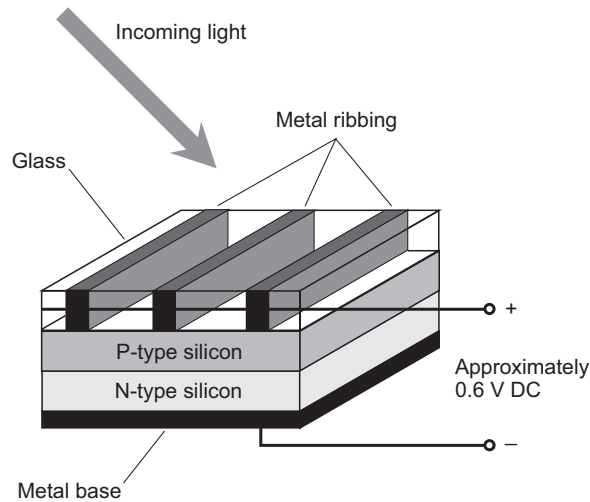

FIGURE 9-4 Construction of a silicon photovoltaic (PV) cell.
A *photovoltaic* (PV) *cell* converts visible light, infrared (IR) rays, and/or ultraviolet (UV) rays directly into DC electricity. Figure 9-4 shows the basic construction of a silicon PV cell. The P-N junction forms the active region. The cell has a transparent housing so that radiant energy can strike the P-type silicon. Interconnected metal ribs form the positive electrode. The negative electrode is a metal backing in contact with N-type silicon.